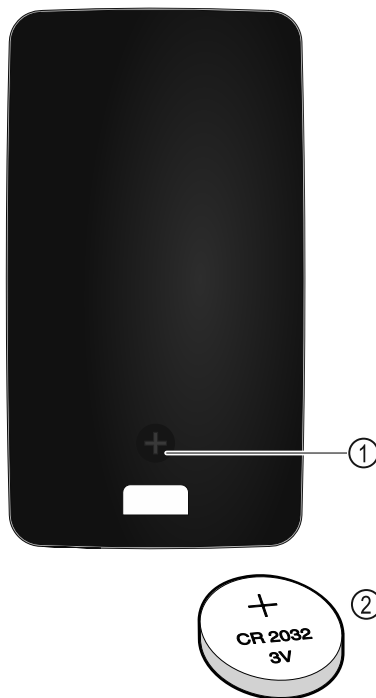

Fig. 220
The remote control is powered by a 3V CR 2032 battery Fig. 220 (2) available from specialist retailers.
- ▶ Undo screw Fig. 220 (1) on the back of the remote control.